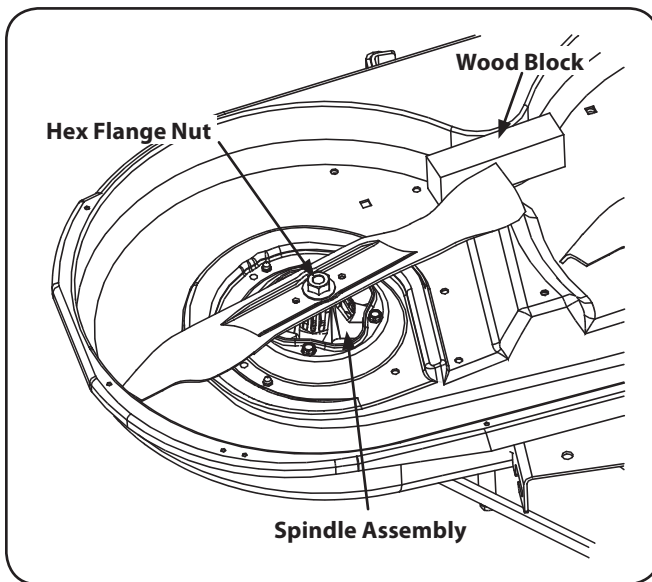

Figure 7-14
2. Use a $1\frac{5}{16}$ " wrench to hold the hex nut on top of the spindle assembly when loosening the hex nut securing the blade. A block of wood may be placed between the deck housing and the cutting edge of the blade to help in breaking loose the hex nut securing the blade. See Figure 7-14.